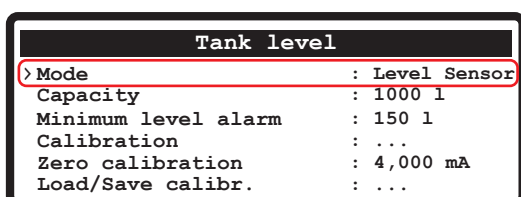

Fig. 27
- 6** Enter the **Tank level** menu, activate the **Level sensor mode**(Fig. 27) and select the **Calibration** item.